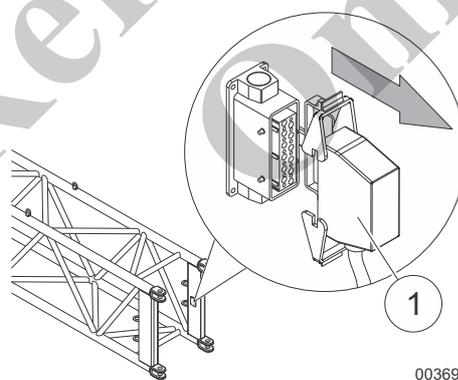

Fig. 242 Lifting limit switch cable
- 19 Pull the lifting limit switch cable on the lattice boom section out of the socket in Fig. 242.